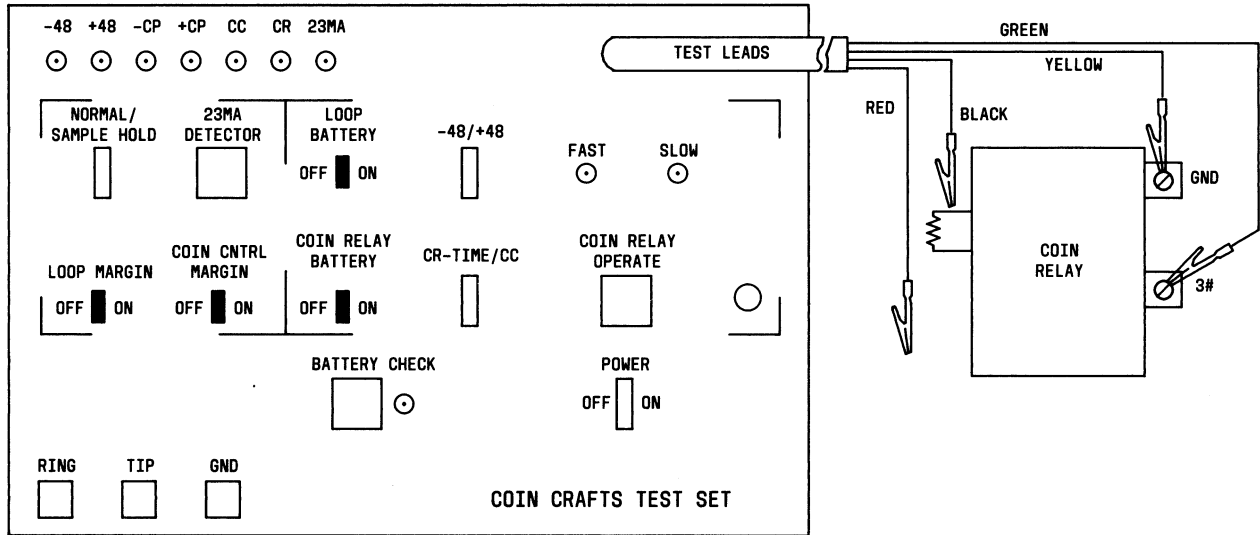

Fig. 3—Test Lead Set-up for Coin Relay Timing
- (a) Connect test set leads—green to No. 3 terminal of coin relay, yellow to ground terminal of coin relay, black to the top of coin relay resistor (Fig. 3).